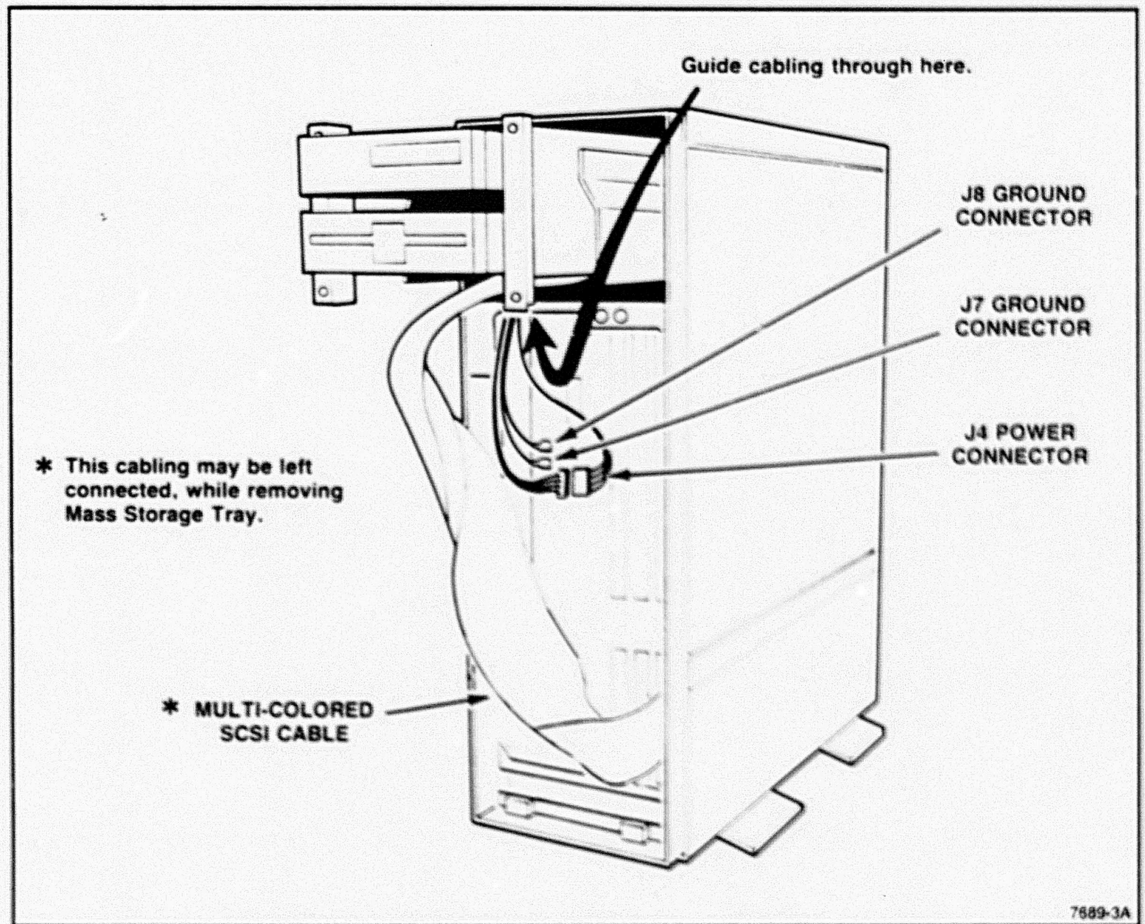

Figure 5. Detaching the Mass Storage Subassembly Cables.
3. Pull the subassembly tray part way out of the front of the frame, until the fan is exposed (see Figure 5).
9. Install the mass storage subassembly into the compute module (see Figure 5).
8. Install the mass storage subassembly in the compute module (see Figure 5).